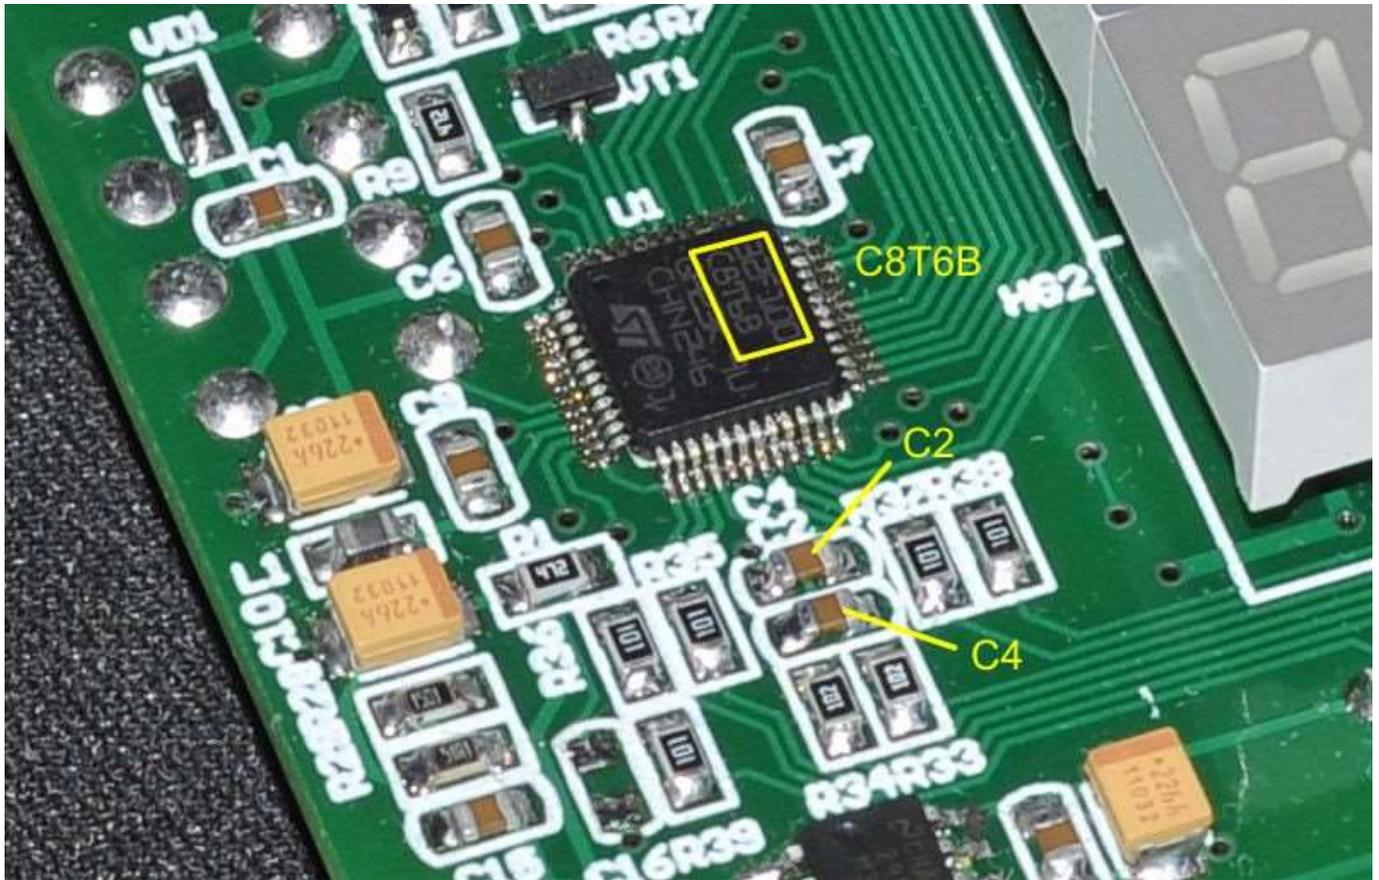

Fig. 2.
2. The processor has been replaced with STM32F100C8T6BB (Fig. 2).
3. There was an ADC error of several units. It is corrected by replacing the C2 and C4 capacities at the input of the ADC with 220 pF (Fig. 2).